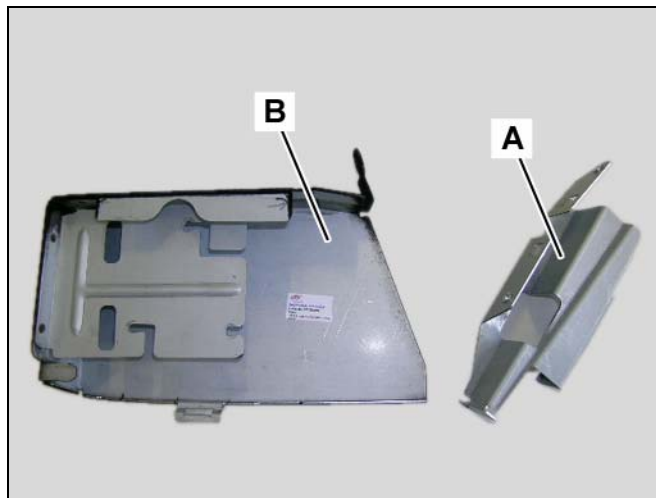
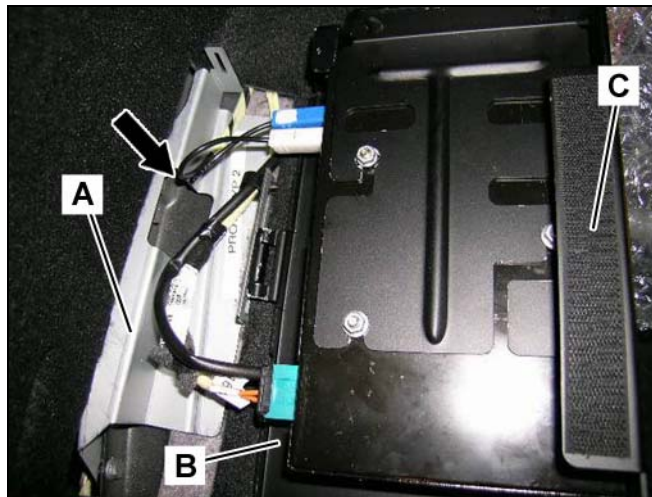

Figure 14
Figure 26
5. Find Part A of the SDARS bracket (A, Figure 14) and Part B of the SDARS bracket (B, Figure 14) in the kit.
2. Position the latch of Part B (B, Figure 14) of the SDARS bracket (B, Figure 26) into position to insert into the slot of Part A (A, Figure 14) of the SDARS bracket (A, Figure 26).
3. Route the SDARS antenna leads behind the trunk paneling (Arrow, Figure 26).
4. Turn up Part B of the SDARS bracket (C, Figure 26) and insert the latch into the slot of the mounted Part A of the SDARS bracket (A, Figure 26).